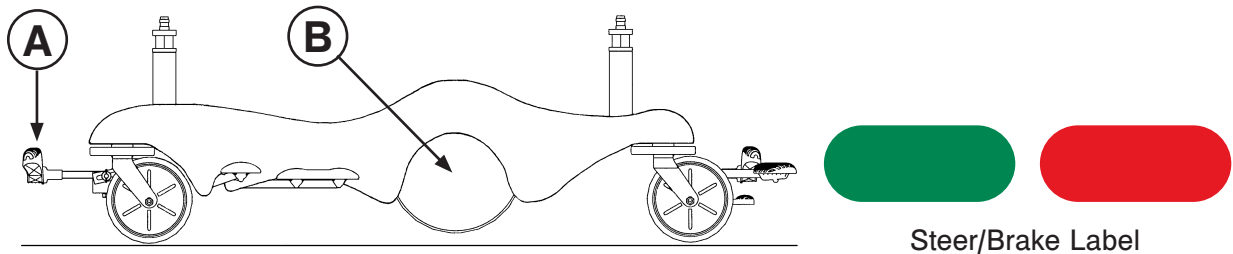

Figure 4.1: Neutral or Brake Position
When the brake/steer pedal (A) is in the neutral or brake position, the Big Wheel (B) is elevated approximately 3/4" and the stretcher rests on the four casters as shown in Figure 4.1. See page 16 for pedal operations.
With the pedal (A) in the neutral position, the stretcher can be moved in any direction including sideways as shown in Figure 4.1. See page 16 for pedal operations.